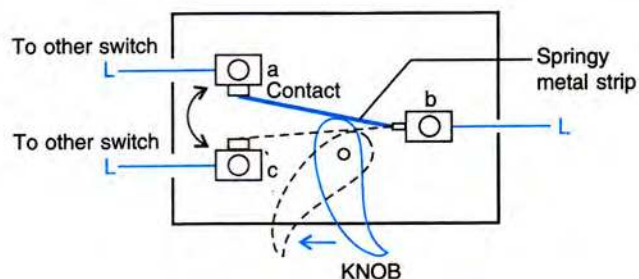

Fig. 9.20 Dual control switch
The connections of a dual control switch are illustrated in Fig. 9.20. It is operated in two ways : (1) by shifting the knob of switch to the right (or up), the live wire L connected at the terminal 'b' makes contact to the terminal 'a' so as to make the connection 'ba' through the springy metal strip, and (2) by shifting the knob to the left (or down), the terminal 'b' makes contact with the terminal 'c' so as to make the connection 'bc'.